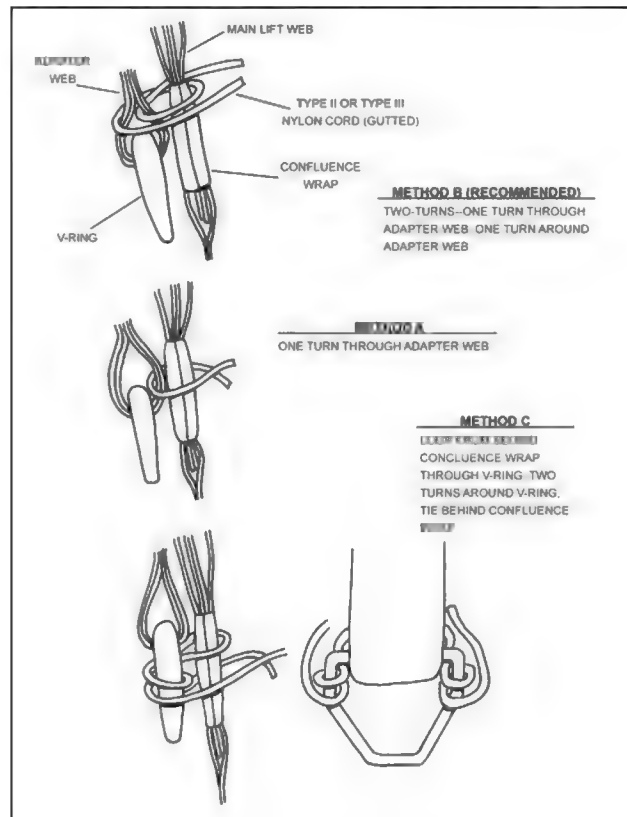

Figure 12-6. Securing lowering line adapter web with Type II or Type III nylon cord.
b. When attaching equipment to be lowered, the web must be routed under the waistband. Type II or III nylon cord (gutta) is used to eliminate slack between the accessory attaching ring and the parachute harness main lift web. This is done by making one turn through the accessory attaching ring loop in the adapter web, and one turn around the main lift web of the parachute harness and the lowering line adapter web (Figure 12-6). The loose ends must be tied together using a suitable joining knot such as a square knot followed by two overhand knots or a surgeon's knot.